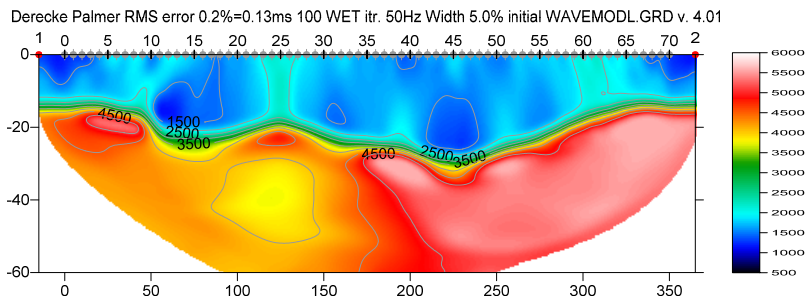

Fig. 19 : same WET inversion as Fig. 18 but max. WET velocity limited to 5,500m/s instead of 6,000m/s (Fig. 11).
- click button *Start tomography processing* to obtain Fig. 19.
- note the suppression of too high velocity anomalies in Fig. 19 compared to Fig. 18.